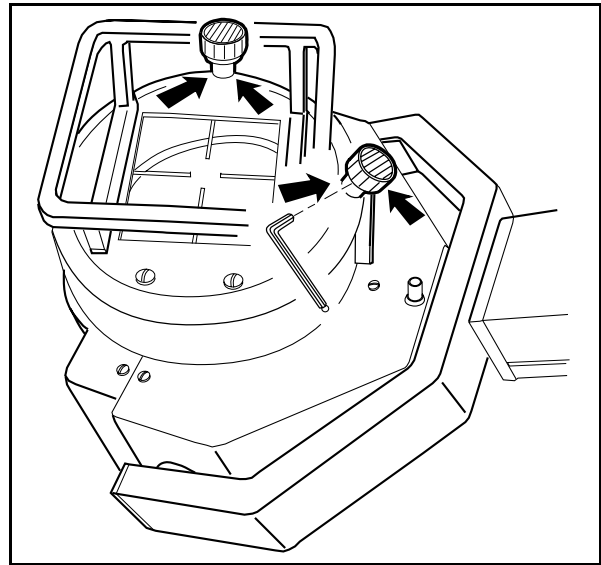

Fig. 9:
- Check whether the adjustment knobs on the collimator are tightened securely (Fig. 9 / p. 31). If necessary, tighten both Allen screws on each of the knobs.